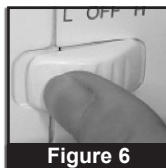

Figure 6
5. Select a speed switch. This will start the bobbin winding. (Figure 6)